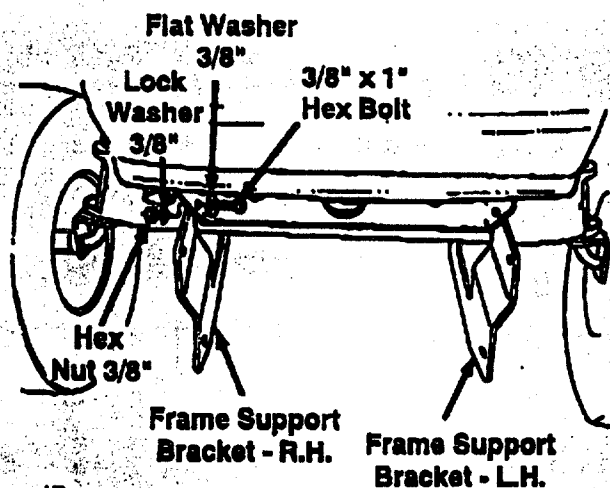

FIGURE 2
- Place 3/8" flat washer on 3/8" x 1" hex bolt and insert bolt through front hole of each frame support bracket (located in front of pivot bar) and bottom holes of grille mounting bracket. See figure 2. Secure with 3/8" lock washer and 3/8" hex nut. Tighten securely.